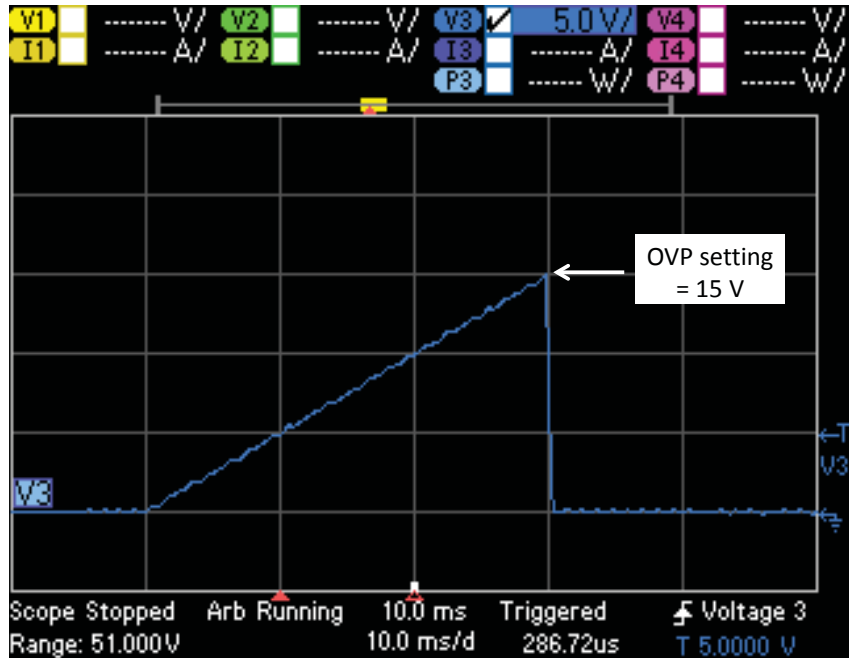

Figure 5. An over-voltage shutdown occurs when the output voltage reaches the 15 V OVP setting, protecting your DUT.
If protecting your DUT is important to you, choose a power supply with built-in protection that prevents excessive voltage and excessive current on the output. Over-voltage protection (OVP) is a feature in many power supplies that protects your DUT against excessive voltage. If the actual output voltage reaches or exceeds the OVP setting, the power supply shuts down its output, protecting the DUT from excessive voltage. Over-current protection (OCP) is a feature that uses the constant current (CC) setting. If the actual output current reaches or exceeds the constant current setting causing the power supply to go into CC mode, the power supply shuts down its output, protecting the DUT from continuous, excessive current. Refer to Figure 5 for an example of an OVP shut down: With the OVP set to 15 V, the output voltage quickly turns off when it reaches the OVP setting.